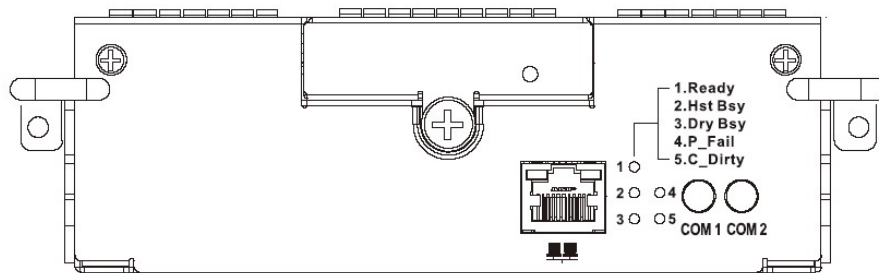

Figure 1-8: RAID Controller Module Faceplate
The controller module faceplate is shown in **Figure 1-8** and has two (2) RS-232C (audio jack) serial ports (labeled **COM1** and **COM2**); one (1) RJ-45 Ethernet connector and five (5) status-indicating LEDs (labeled from 1 to 5). The controller board is housed in a metal canister and can only be seen after the controller module has been removed from the subsystem enclosure. The controller canister has two (2) ejector levers that secure the controller module to the subsystem chassis. These levers are, in turn, secured to the enclosure chassis with two (2) retention screws.